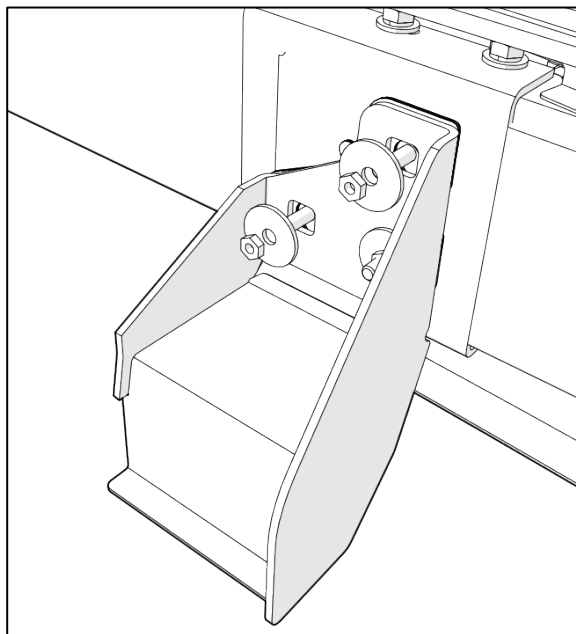

**FIGURE 6**
6. On the right side, loosen the bumper nuts (two) as shown on Figure 6. Do not remove the nuts completely.